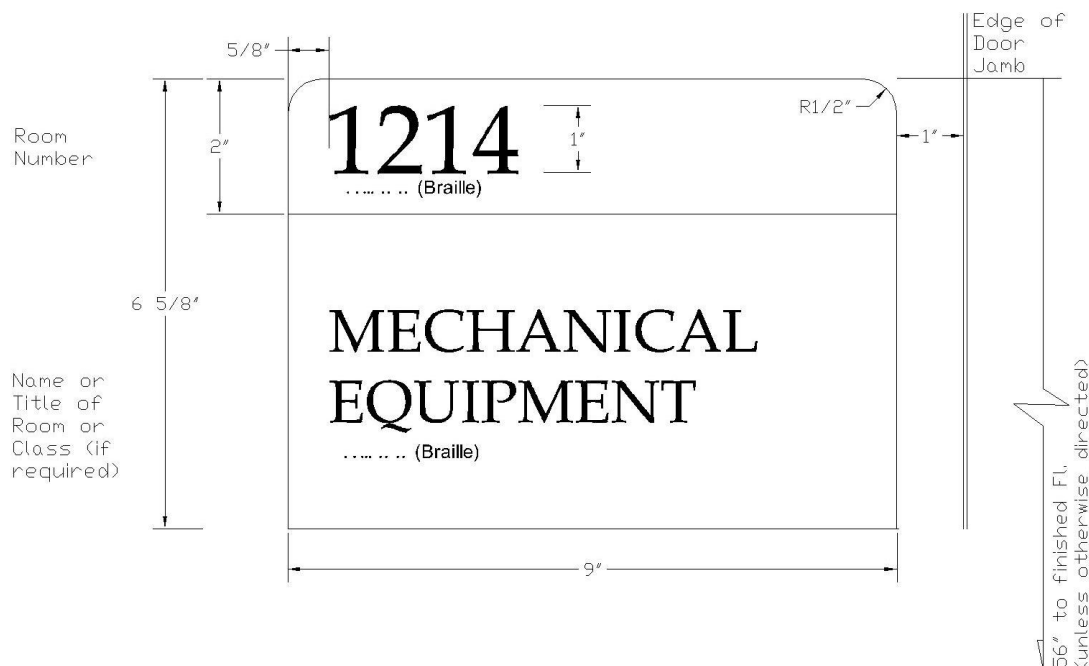

Figure 5 (for permanent assigned rooms)
- Restrooms, stairwells, floor designators, mechanical equipment, electrical equipment, telecommunications equipment and elevator equipment fall into this category. All characters shall be uppercase. (see Figure 5)